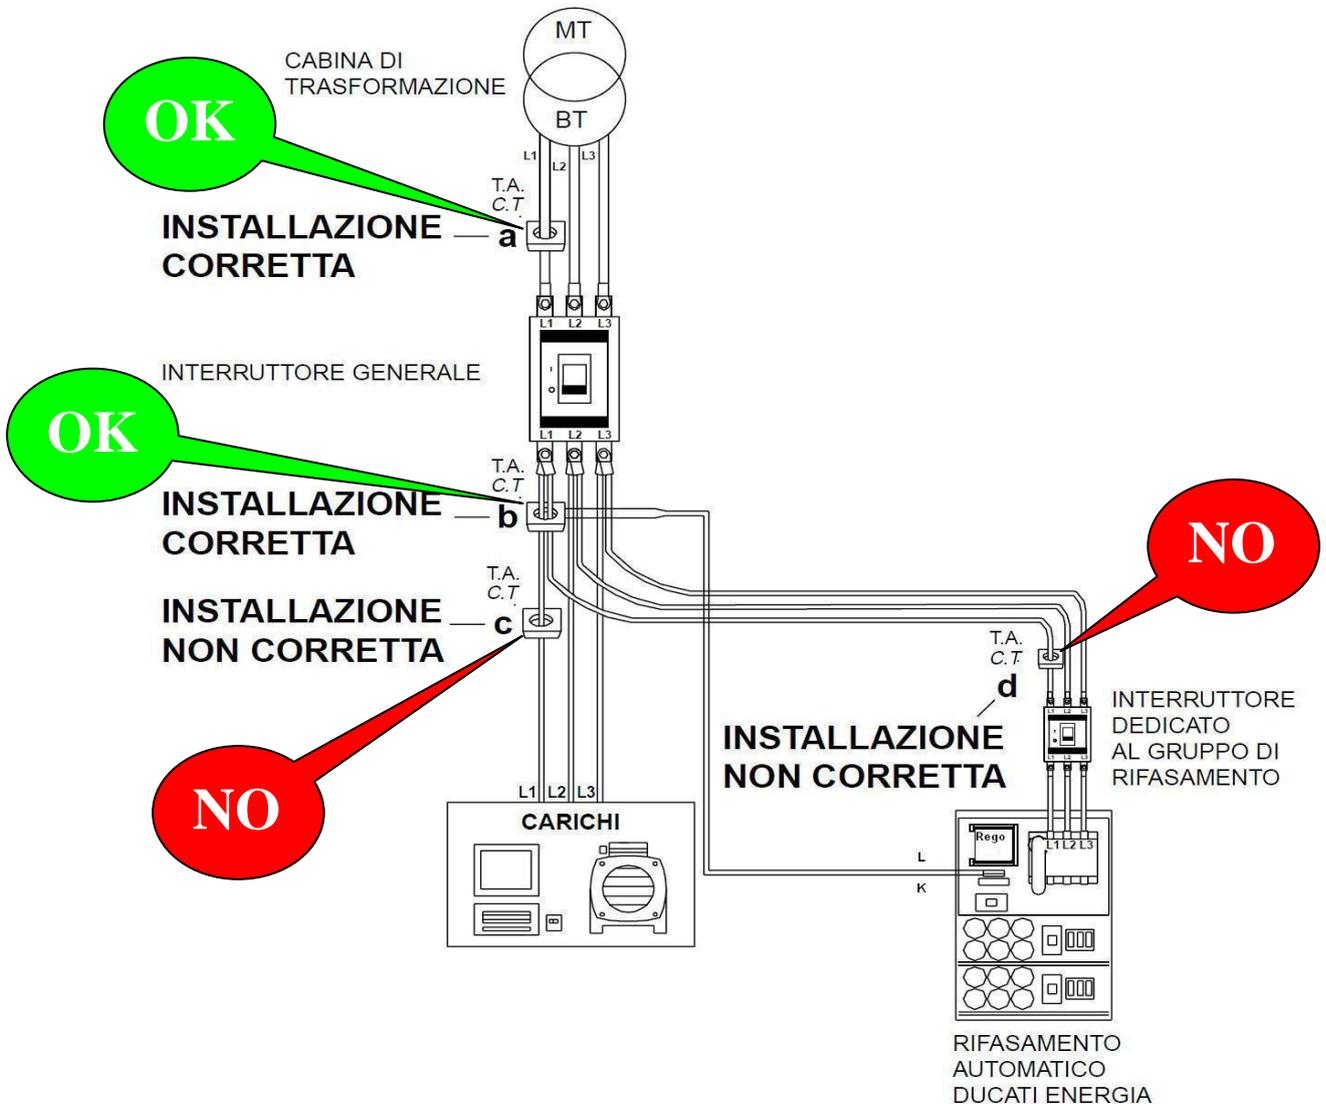

Figure 2 – Example of CT connections
**ATTENTION:** Before proceeding with the steps described below **check** that the CT has been installed as shown in Figure 2. Also ensure that the connected load remains stable as long as the “Status” led is orange.
14	<p>CT in wrong CT position:</p> <p>“Status” led is steady red                  “Step1..Step5” leds flash as set forth for error no. = 14 in Table 4</p> <p>This error occurs when the CT connection was set up incorrectly (for example, it was connected as shown in position “c” or “d” of Figure 2)</p> <p>It is necessary to switch the cabinet off, check the connection, remove the cause of error and turn the system back on again.</p>